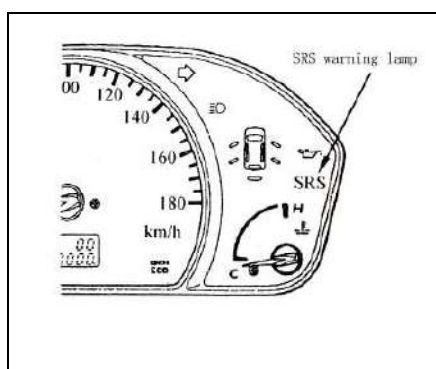

Fig 19-23
(2) Post-installation check (See fig 19-23)